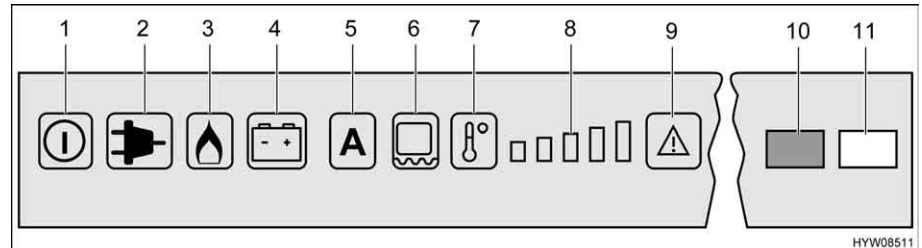

Fig. 218 Operating controls for the refrigerator (Dometic RMD)
If the "AES" operating mode is set, the 230 V supply is **not** connected and the vehicle engine is **switched off**, the AES selects the gas supply. When selecting gas operation the ignition fuse is opened automatically so gas can get into the burner. At the same time the electronic ignition is activated. If the gas flame is extinguished, e.g. by blast of wind, the ignition is activated immediately and re-ignites the gas. If there is a fault in gas operation, the illuminated buttons "Gas" (Fig. 218,3) and "Fault" (Fig. 218,9) flash. The "Fault" indicator lamp (Fig. 218,10) lights up and an alarm sounds for 20 seconds.
When turned on the first time the refrigerator automatically selects the middle thermostat position. This position can be adjusted manually using the temperature range selection button (Fig. 218,7). The indicator lamps (Fig. 218,8) show the selected thermostat position. The refrigerating temperature for all three types of power is set with the temperature range selection button. It takes a few hours till the refrigerator reaches its normal operating temperature. When changing over the operating mode the thermostat setting will be maintained. The refrigerating temperature is retained regardless of the type of power being used.
- Switch on the frame heater for a 2 hour period: Push button (Fig. 218,6) once. One bar is lit up on the temperature range display (Fig. 218,8).
- Switch on the frame heater for a 5 hour period: Push button (Fig. 218,6) twice. Two bars are lit up on the temperature range display (Fig. 218,8).
- Setting frame heater for continuous operation: Push button (Fig. 218,6) three times. Three bars are lit up on the temperature range display (Fig. 218,8).
The temperature range display (Fig. 218,8) shows the operating time of the frame heater for several seconds.
High external temperatures and high humidity can cause drops of water to form on the metal frame of the freezer compartment. This is why the refrigerator is equipped with a frame heater for the freezer compartment. If the temperature and humidity are high, switch on the frame heater by pressing the button (Fig. 218,6). This prevents corrosion. If the frame heater is switched on, the illuminated button (Fig. 218,6) is lit.
- Press and hold the On/Off button (Fig. 218,1) for about 2 seconds. The refrigerator switches on and the previously set power type or "AES" is displayed.
- Use the temperature range selection button (Fig. 218,7) to set the refrigerating temperature. The indicator lamps (Fig. 218,8) show the selected thermostat position.
- Press and hold the On/Off button (Fig. 218,1) for about 2 seconds. The refrigerator switches off and no displays are lit.